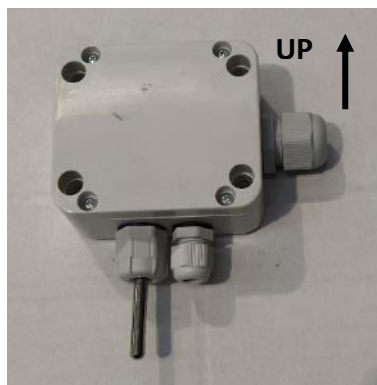

Figure 5.13. Recommended position for installing the outdoor temperature probe.
- **I**nstall the outdoor temperature probe with position shown on Figure 5.13 to avoid water to come in.